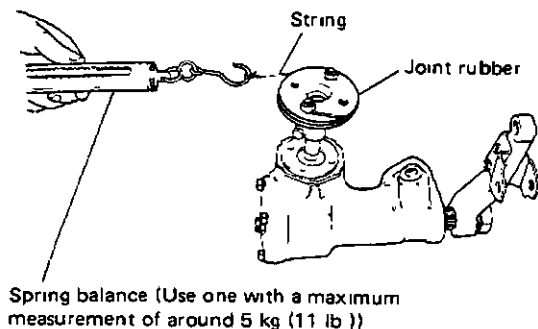

Fig. 18-21
- 4) If worm shaft starting torque is checked all right, another check should be carried out on worm shaft operating torque in its entire operating range (turning the worm shaft all the way to the right and left) as shown in Fig. 18-21.